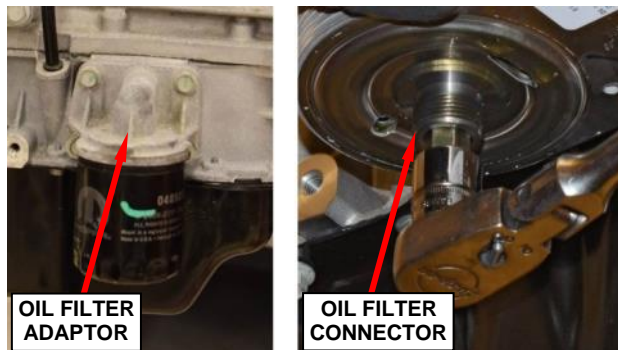

Figure 115 – Engine Without Oil Cooler
- b. Remove and save the engine oil filter connector (Figure 115).